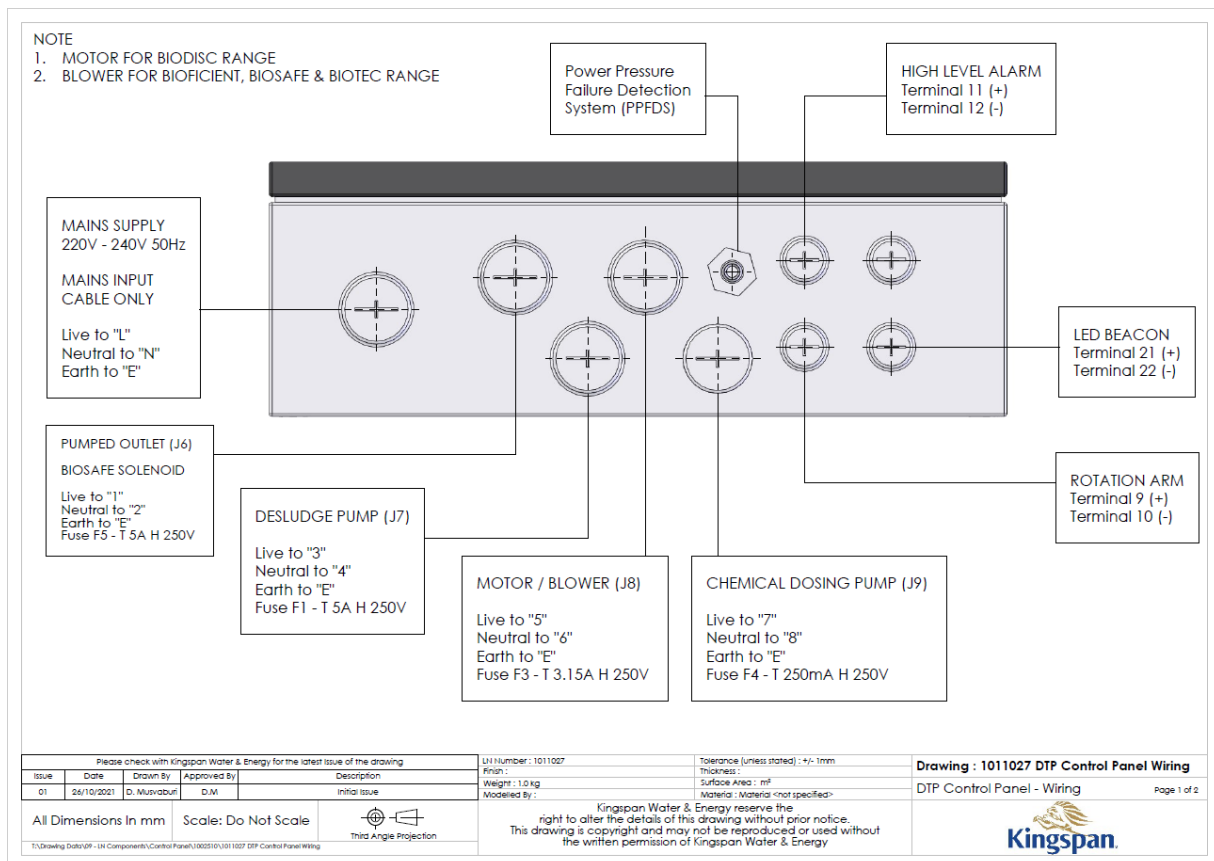
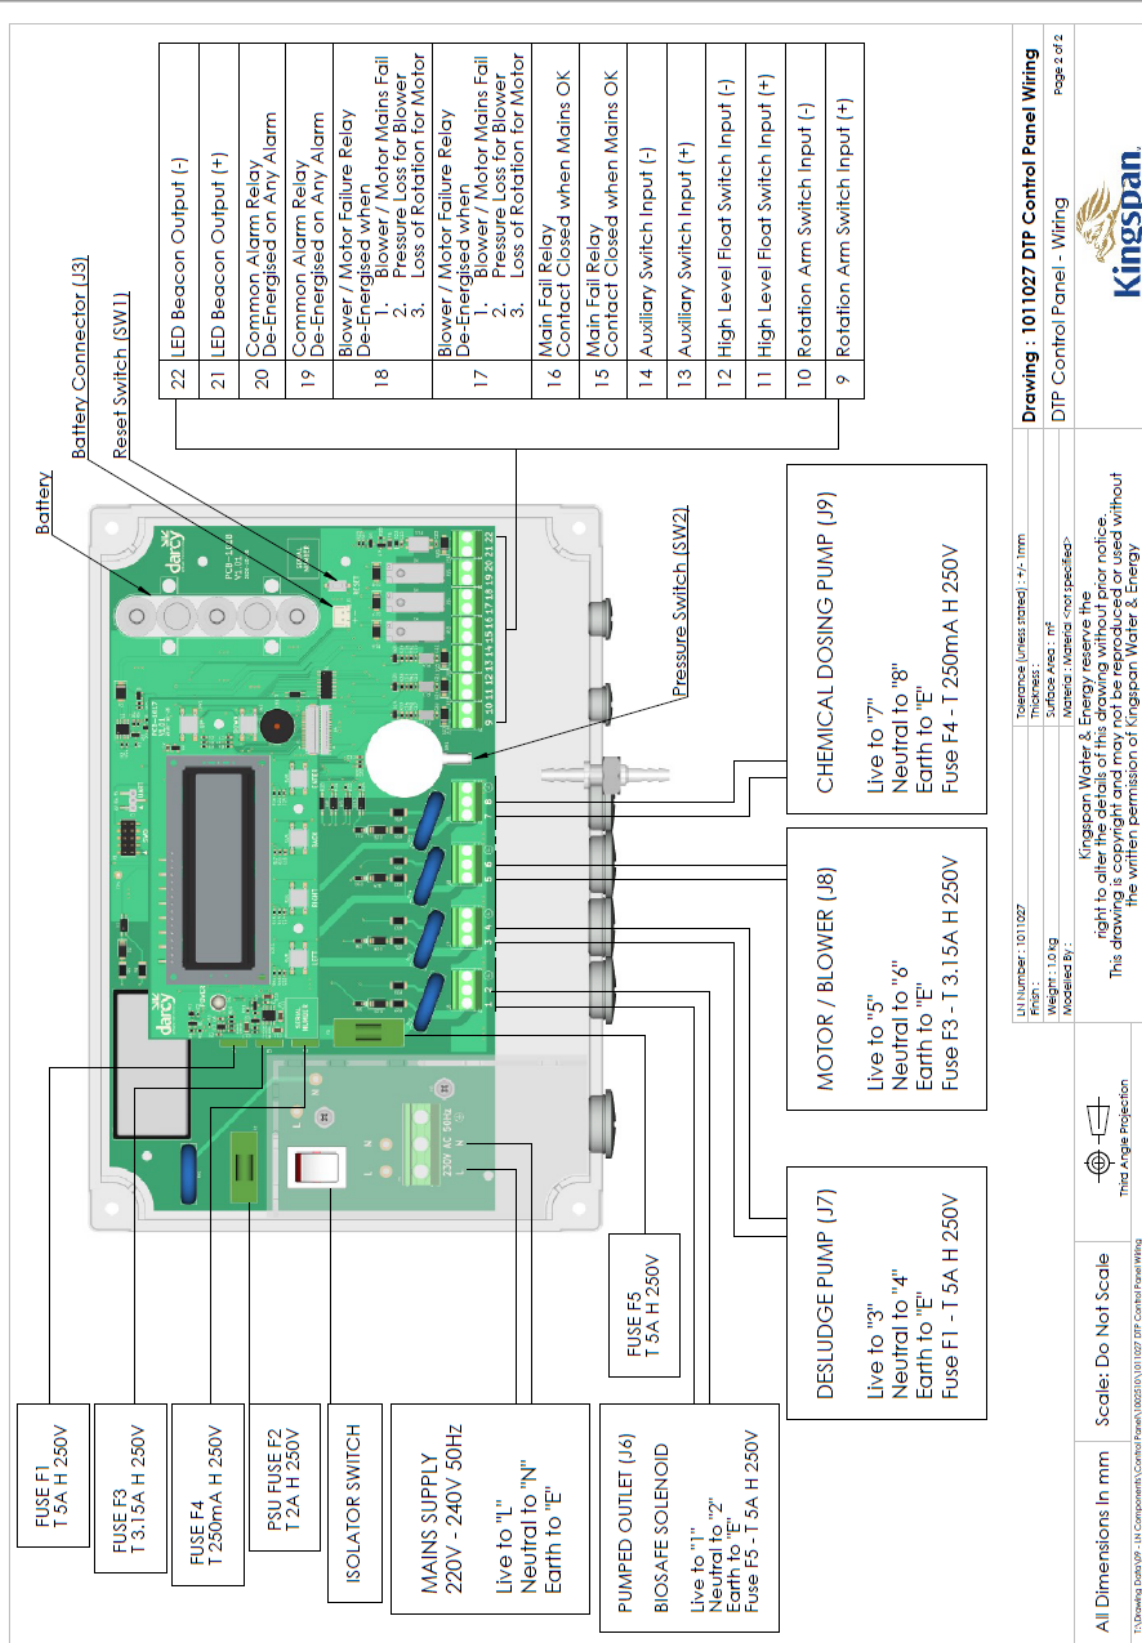

Figure 3 Control Panel Wiring (1)
Figure 4 DTP Control Panel Wiring (2)
Using a suitable M20 gland, feed the pump power cable through Gland Hole and terminate to connections 1 & 2 (J6) according to Figure 3 & Figure 4.
Fix the black plastic bracket to the side wall of the baffle (the exact position is on the drawing included with the HLA kit). Secure the float cable in the cable gland as shown on the drawing in the HLA kit. Pull the float cable through any installed ducting into the blower housing. Complete wiring according to Figure 3 & Figure 4.
The Beacons provides an external visual indication which is used to indicate Failure & Service Reminders and may be included in the Power and Pressure Failure Detection System (PPFDS). The beacon is provided with a 5m cable which can be extended to 30m. As supplied, the unit is protected against rain to IP65 and is supplied ready to mount on a suitable surface. Complete wiring according to Figure 3 & Figure 4.
Using a suitable M20 gland, feed the motor power supply cable through Gland Hole and terminate to connections according to Figure 3 & Figure 4.
Using a suitable M20 gland, feed the integral discharge pump power cable through Gland Hole and terminate to connection according to Figure 3 & Figure 4.
Using a suitable M20 gland, feed the chemical dosing pump power cable through Gland Hole and terminate to connection according to Figure 3 & Figure 4.
Complete all wiring according to Figure 4 DTP Control Panel Wiring (2)